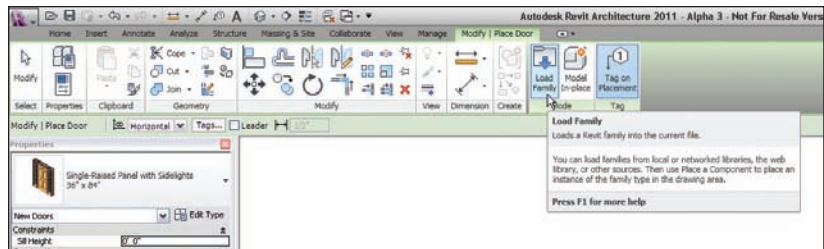

FIGURE 2.70 Click Load Family on the Mode Panel.
2. On the Modify | Place Door tab, click the Load Family button, as shown in Figure 2.70.